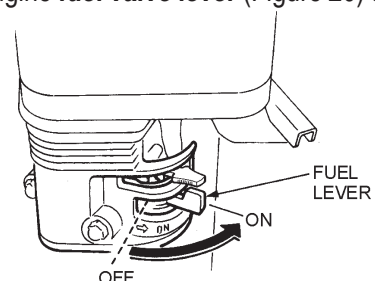

Figure 20. Engine Fuel Valve Lever
- Place the engine **fuel valve lever** (Figure 20) to the "ON" position.
4. Place the engine *fuel valve lever* (Figure 20) in the **OFF** position.